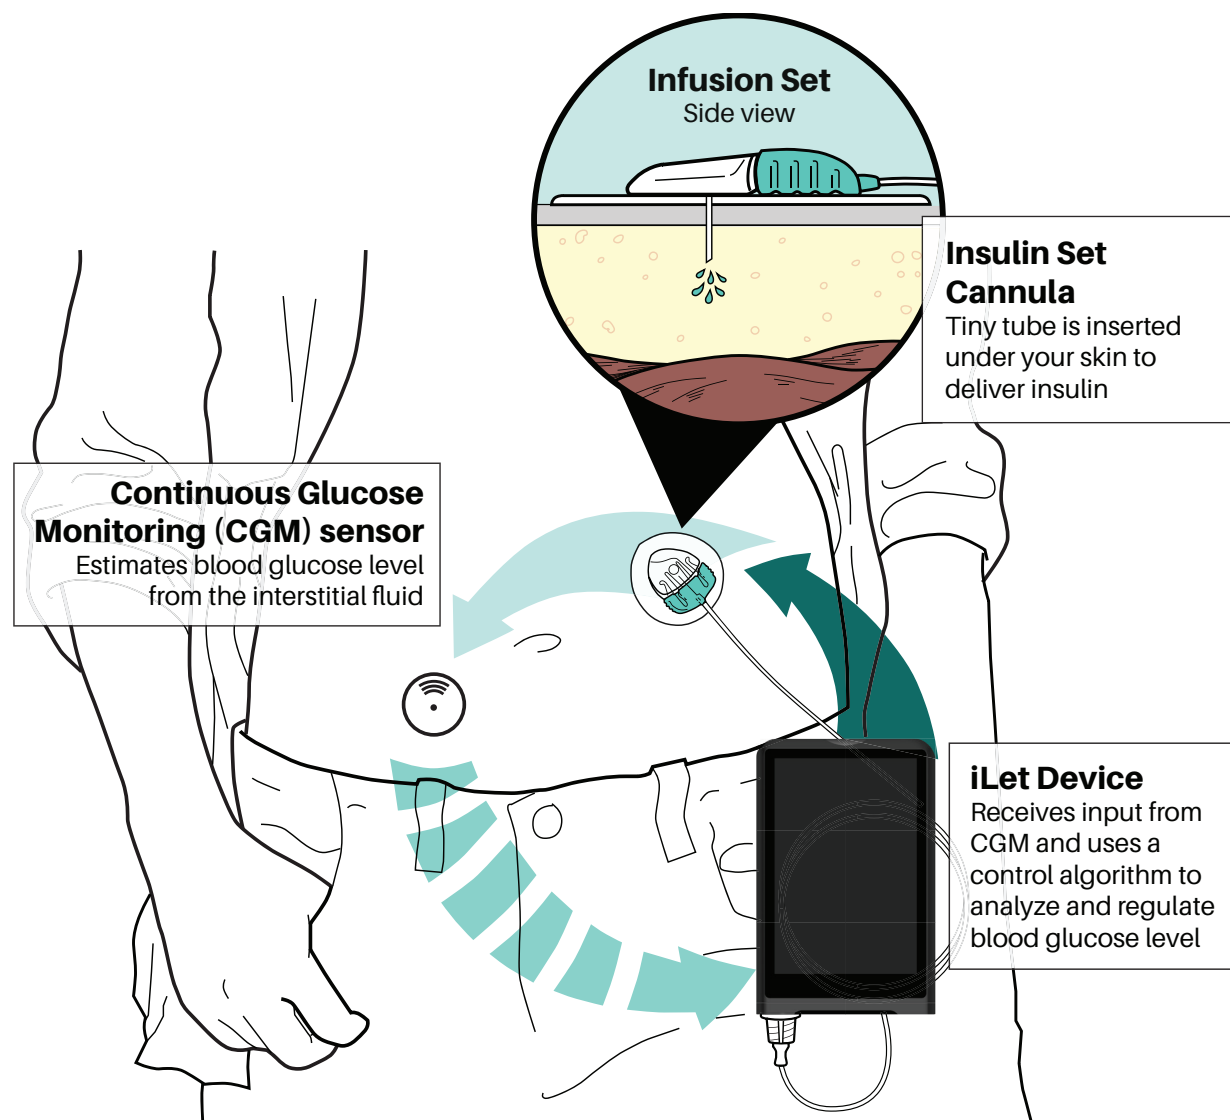

Figure 1
The iLet Bionic Pancreas System is a closed-loop system that delivers insulin based on input from an integrated continuous glucose monitor (iCGM) in order to automatically regulate blood-glucose (BG) levels (see Figure 1). The iLet System uses autonomous lifelong learning to calculate and deliver insulin doses and to continually adapt these doses to your changing insulin needs.